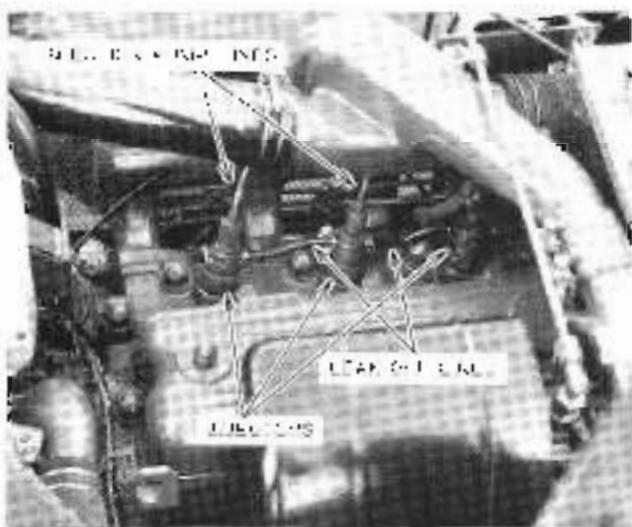

Figure 56 – Fuel Injector Leak-off Lines
1. Clean the lower deck front around the injectors and tank. Disconnect the leak-off pipe from the injector. Figure 56.